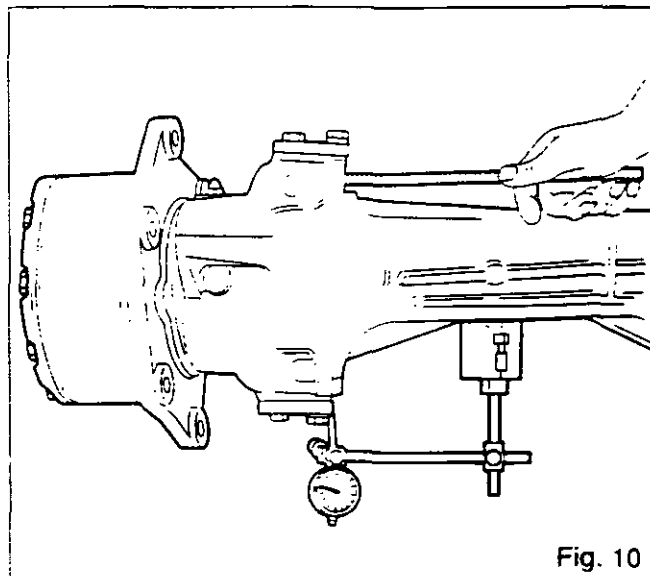

Fig. 10
69. With a dial gauge, measure the axial play "J" using a lever between the axle case and the swivel housing (Fig. 10).